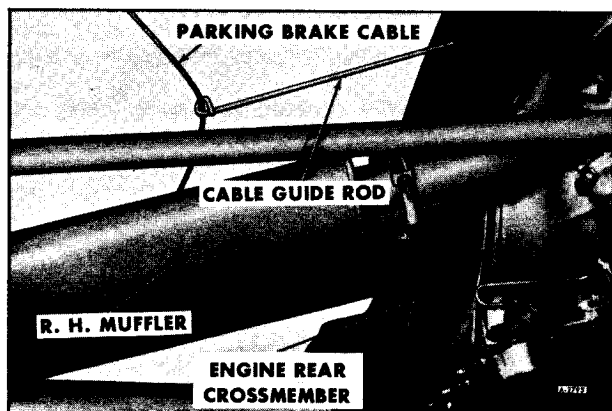

Figure 1
3. Disconnect parking cable from guide rod at right rear of engine rear crossmember as shown in figure 1.